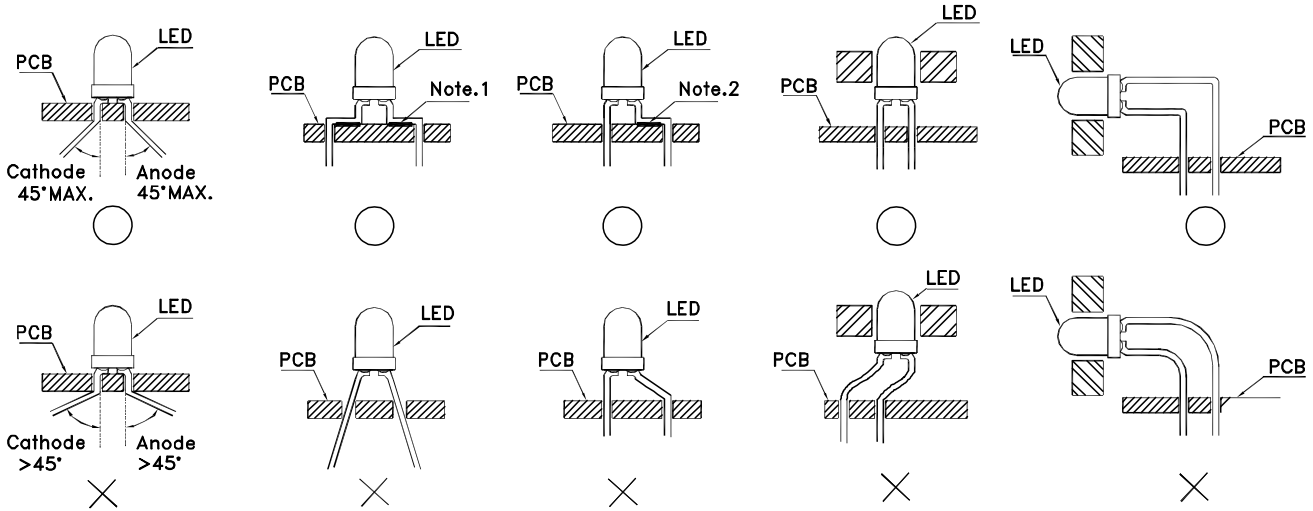

Fig.1
1. The lead pitch of the LED must match the pitch of the mounting holes on the PCB during component. Lead-forming may be required to insure the lead pitch matches the hole pitch. Refer to the figure below for proper lead forming procedures.(Fig. 1)